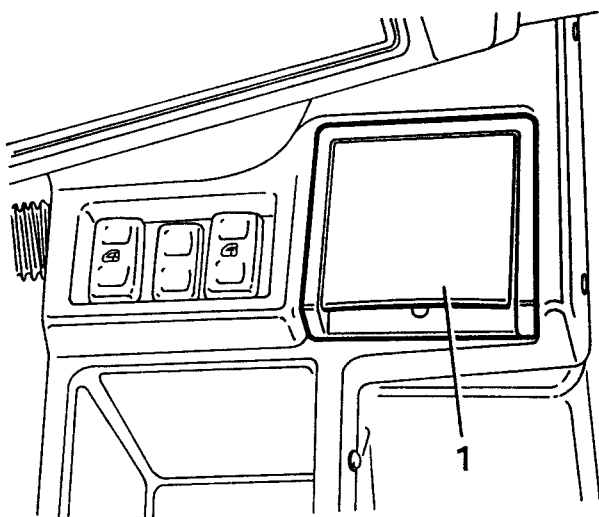

Figure 25
1. Raise the ash tray cover and remove the complete assembly from the console, see Figure 25.